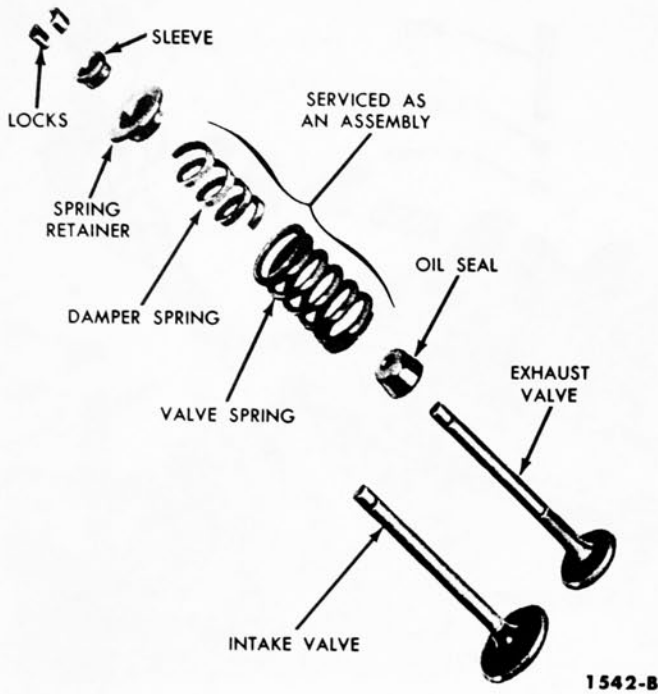

FIG. 20—Valve Assembly
1. Install each valve (Fig. 20) in the port from which it was removed or to which it was fitted. Install a new stem seal on the valve.